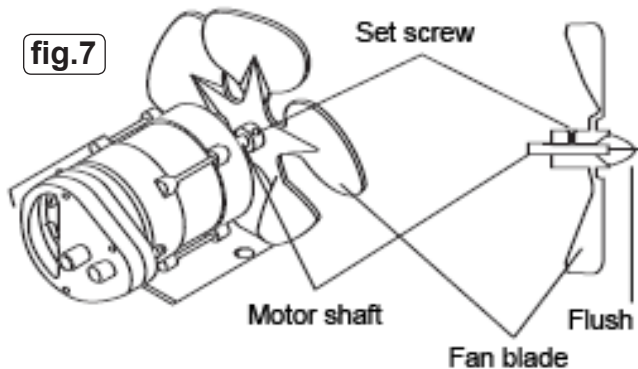

fig.7
7.3 FAN BLADES (See fig.7)
The fan blades should be cleaned at least once per heating season, depending on conditions in the area of use. Remove all accumulated dust and dirt with a damp cloth, taking care not to bend any of the fan blades. Dry the fan blades thoroughly before restarting the heater. For fan removal see fig.7.